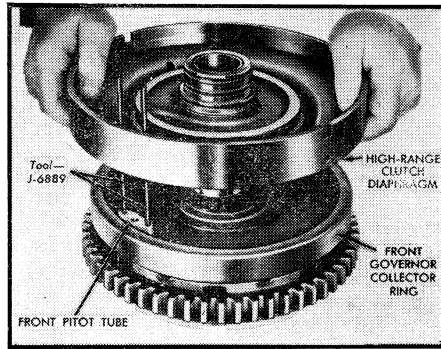

Fig. 27 High clutch diaphragm installation
drilled port is located, Fig. 27. (Guide bolts can be made from two 5-inch lengths of $\frac{1}{8}$ " brazing rod threaded with a 10-32 die a distance of $\frac{3}{8}$ ".)
14. Install high clutch diaphragm over high clutch. Make sure diaphragm enters high clutch housing without damaging hook-type seal rings at rear of diaphragm. At the same time, direct guide bolts through pitot tube mounting screw holes, Fig. 27.